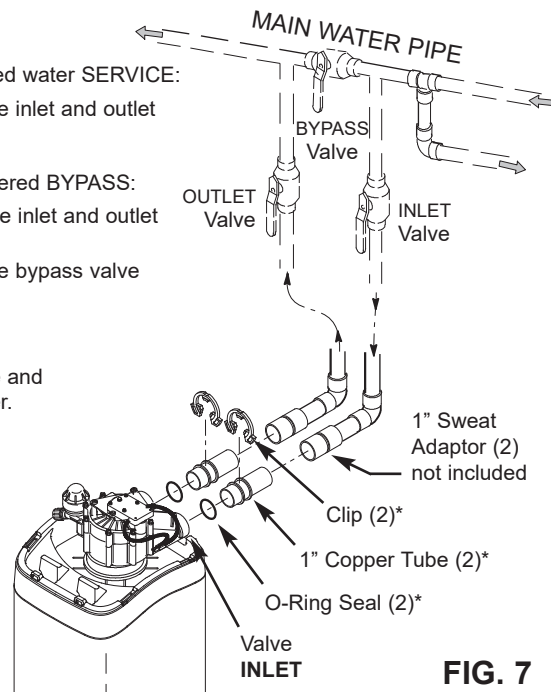

FIG. 7
- If installing a 3-valve bypass system, slide plastic installation adaptor and copper tube, with lubricated o-ring seals in place, into the valve inlet and outlet ports, respectively (See Figures 7 & 9).
The house cold water pipe (metal only) is often used as a ground for the house electrical system. The 3-valve bypass type of installation, shown in Figure 7, will maintain ground continuity. If you use the plastic bypass, continuity is broken. To restore the ground, do the following:
- b. Place bypass valve(s) into "bypass" position. On a single valve, slide the stem inward to BYPASS (See Fig. 8 on page 6). On a 3 valve system, close the inlet and outlet valves, and open the bypass valve (See Fig. 7 on page 6).